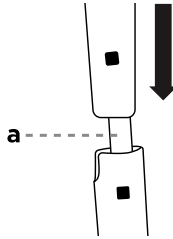

Fig. B1
1. The tool arrives with the shaft locking knobs and bolts detached and shafts loosened. You need to connect and lock the two shafts together. Slide the lower shaft into the upper shaft. Line up the two round mounting holes on each tube. Make sure the cable (a) is clear of the mounting holes. (See Fig. B1)